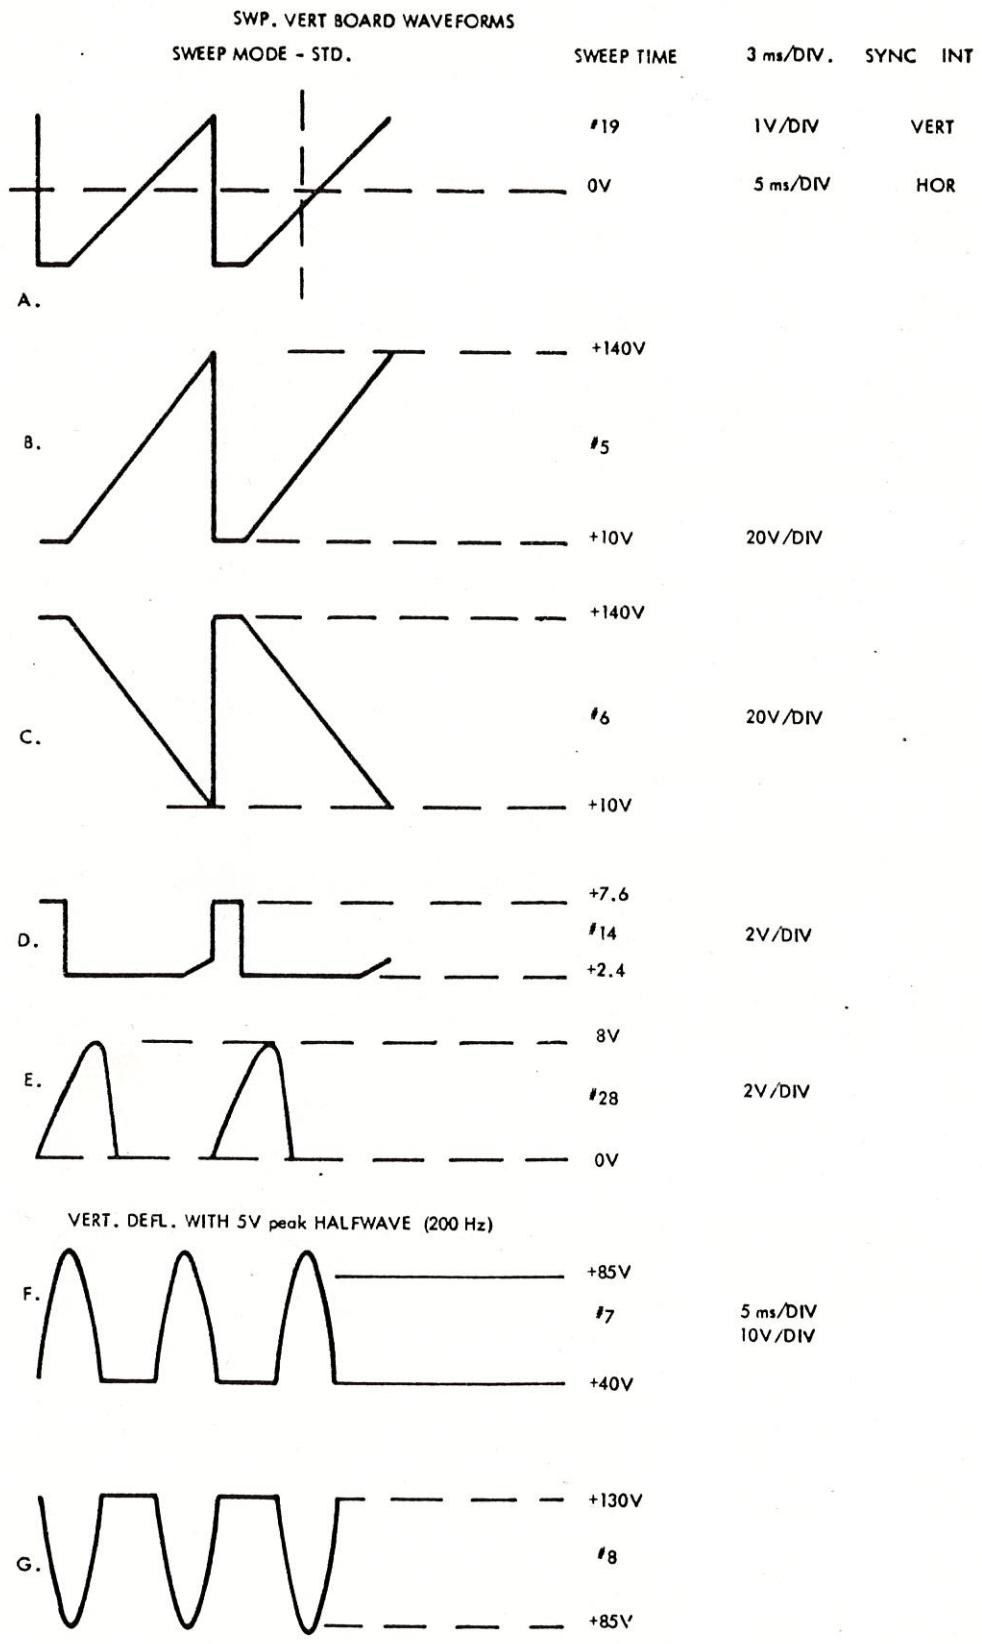

Figure 7-2. A102 Waveforms
7-16. A102 SWEEP AND VERTICAL AMPLIFIER BOARD. Set oscilloscope as indicated for each test point (figure 7-2). Proceed as follows:
- (1) With display unit controls SYNC at INT, STD SWEEP at 3 msec/DIV, and oscilloscope set to 1V/DIV vertical, 5 ms/DIV horizontal, apply probe to pin 19. Adjust Dispersion Zero Balance R1 to position base of ramp (A, figure 7-2) at $-2.6V \pm 0.05V$. Adjust Dispersion Width R70 to position peak of ramp at $+2.6V \pm 0.05V$.
Unless otherwise specified, waveforms of figure 7-2 are nominal. Voltages can be within $\pm 10\%$.
- (3) Adjust V front panel control to position baseline of wave on bottom line of graticule. Adjust VERT GAIN rear panel control to obtain 1/2-screen display (4 divisions). Now adjust D.C. level R50 to obtain 85V peak (F and G, figure 7-2). Readjust V and VERT GAIN controls if necessary.
- (4) Set oscilloscope for 20V/DIV. Apply probe to pin 5 and adjust H front panel control to obtain start of trace at left of screen one minor division (0.2 Div.) outside left hand vertical line of graticule. Adjust Horiz. Gain R55 for full scale horizontal deflection, so that trace extends one minor division (0.2 Div.) outside right hand vertical line of graticule. Adjust D.C. Level R63 to center the wave on the oscilloscope (B, figure 7-2).
- (5) Check for retrace pulse with probe applied to pin 14 (D, figure 7-2); check for hold-off pulse with probe applied to pin 28 (E, figure 7-2).